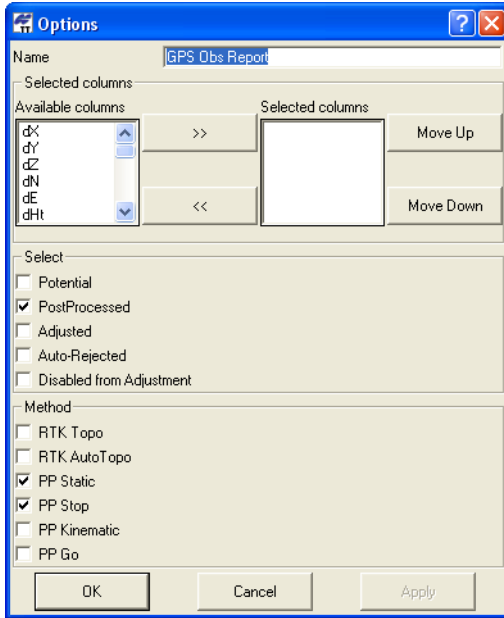

Figure 7-23. Item Options – GPS Obs Report
- GPS Obs Report – edit the name, select parameters to include or exclude using the move right/move left buttons, order the display of parameters using the Move Up/Move Down buttons, select the type of points to apply the parameters to, select the method used for points to apply parameters to, and click **OK** (Figure 7-23).